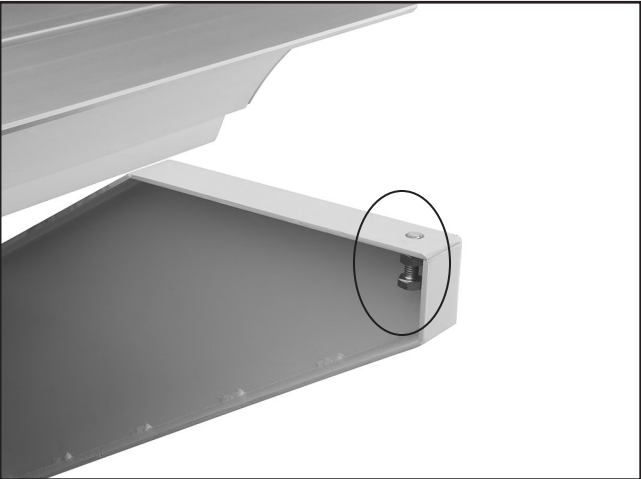

Figure 24. Small extension table support bolt.
- 8. When the surfaces are level, thread the bolt shown in **Figure 24** against the underside of the small extension table to hold it level.